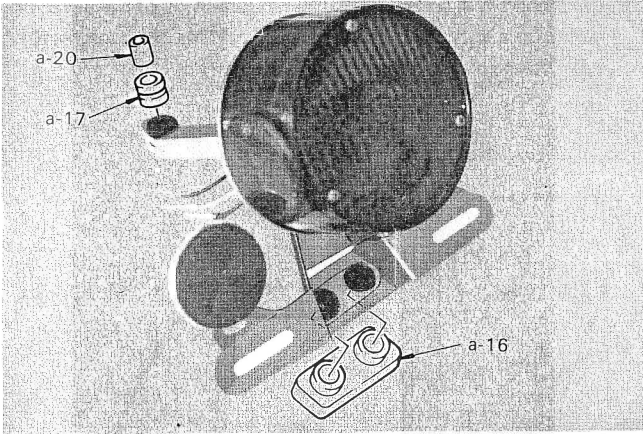

Fig. 40
33. Install the two rubber dampers (a-16, a-17), fender mounting collar (a-20) contained in the vinyl bag on the tail-stop lamp assembly (j) license bracket. (Fig. 40)